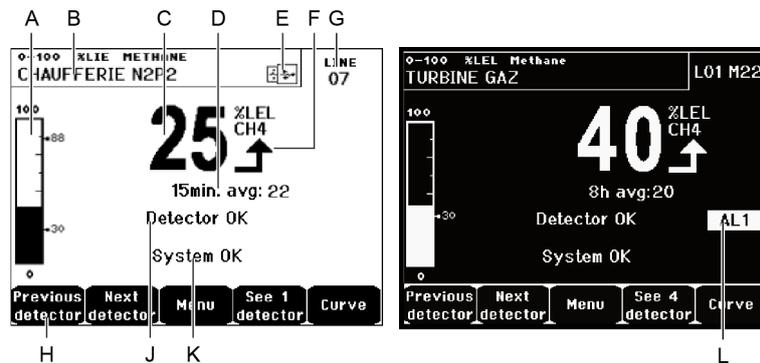
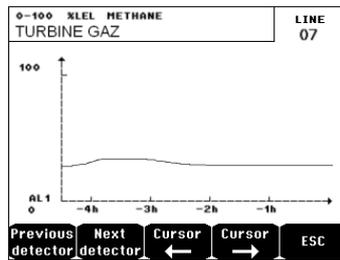

Figure 44: Example of the measurement display in normal mode and in inverse video.
Figure 45: Example of a curve display screen.
H.	<p>Function keys.</p> <ul style="list-style-type: none"> ■ Previous detector: Display of measurements of previous detector; scanning of all the detectors on all the lines. ■ Next detector: Display of measurements of next detector; scanning of all the detectors on all the lines. ■ Menu: Display of main menu See paragraph "Main menu" on page 47. ■ See 4 Detectors: Display of a group of 4 detectors (detector tag, barograph with indication of alarms, value of current measurement with unit and gas detected). Use the Page down or Page up keys to display all of the next 4 detectors; passage to the next zone is automatic. ■ See 8 Detectors: Display of a group of 8 detectors (detector tag, value of current measurement with unit and gas detected). Other buttons similar to the selection. See 4 detectors. ■ See 16 Detectors: Display of a group of 16 detectors (detector tag, value of current measurement with unit and gas detected). Other buttons similar to the selection. See 4 detectors. ■ See 1 detector: Display in normal mode (Figure 44). ■ Curve: Display of the measurement curves of the last 4 hours (Figure 45). The → and ← keys allow cursor displacement through the time scale. The vertical dotted line displays the concentration and time stamp of the point being considered. Escape: return to display of values.
- L. Zone of indication of activated alarms with blinking threshold display. The screen changes to inverse video (Figure 44, screen on the right).